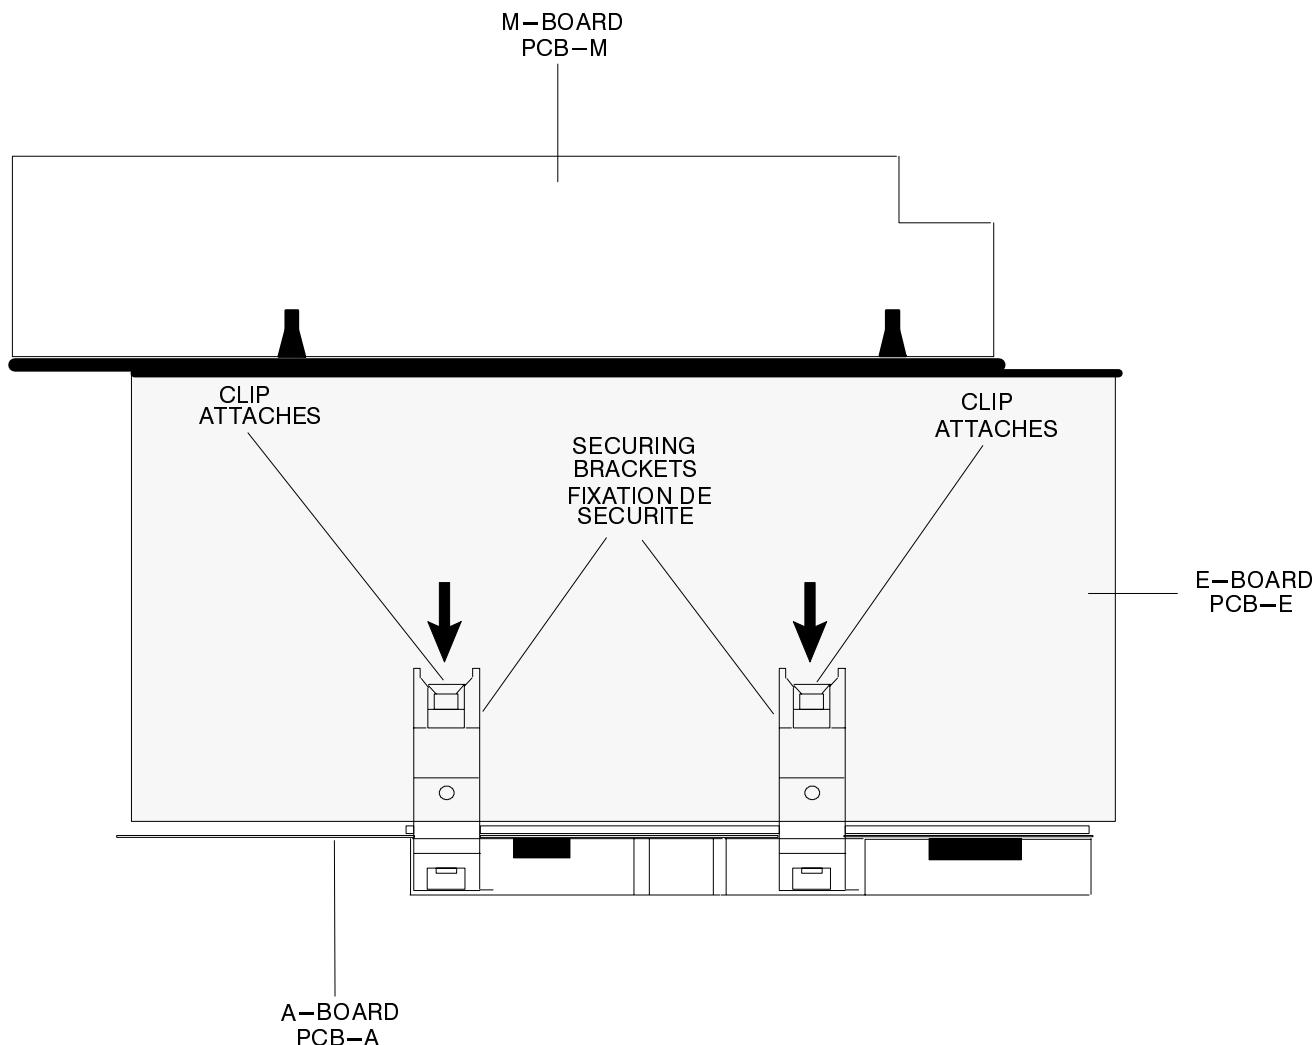

Fig.8
2. Release the A board securing brackets by pushing the clips in the direction shown in Fig.8, and remove the A – board by gently lifting vertically.
2. Retirer les fixations de sécurité des PCB-A en poussant les attaches dans la direction indiquée Fig.8, retirer la PCB-A en la tirant doucement verticalement.
1. Remove the A-board from the main chassis (E-board) as shown in Fig.8.
1. Retirer la PCB-A du châssis principal ([PCB-E] tel qu'indiqué Fig.8).